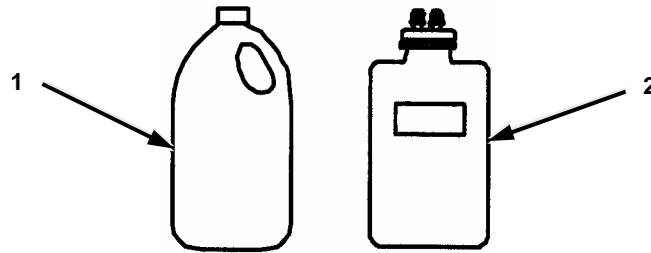

Figure 2-21. Mixing Coolant Components.
Step 1 and 2 below apply to Figure 2-21.